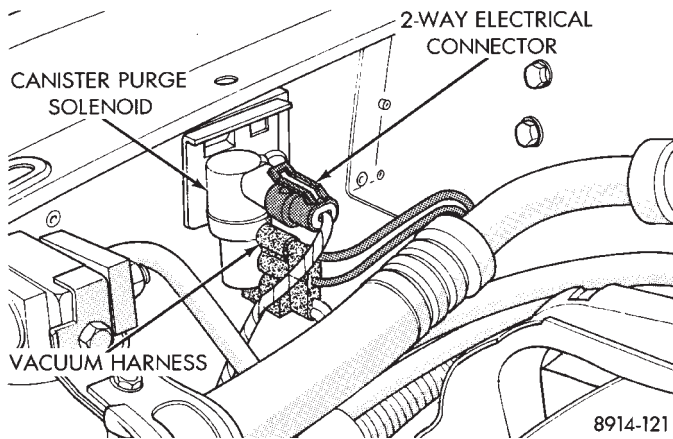

Fig. 16 Canister Purge Solenoid
(1) Remove vacuum hose and electrical connector from solenoid (Fig. 16).
(2) Depress tab on top of solenoid and slide the solenoid downward out of mounting bracket.
(3) Reverse the above procedure for installation.